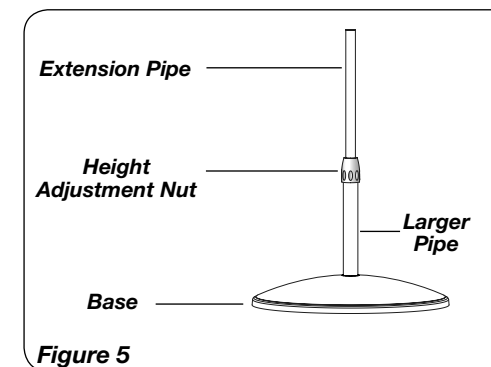

Figure 5
1. With a twisting motion, insert the end of the large diameter pipe into hole in Base. (Figure 5) Turning pipe while pushing will assure pipe is fully seated in Base.